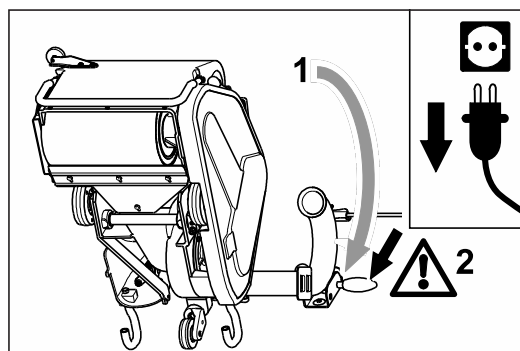

Fig. 49 Tilt the machine backwards (1). Ensure that the machine is standing securely (2)!
- 3 Tilt the machine backwards over the safety guards so that you can see the wheel bearings (fig. 49, 1). **Ensure that the machine is standing securely (fig. 49, 2)!**
- 6 Tilt the machine backwards over the safety guards (fig. 49, 1). **Ensure that the machine is standing securely (fig. 49, 2)!**